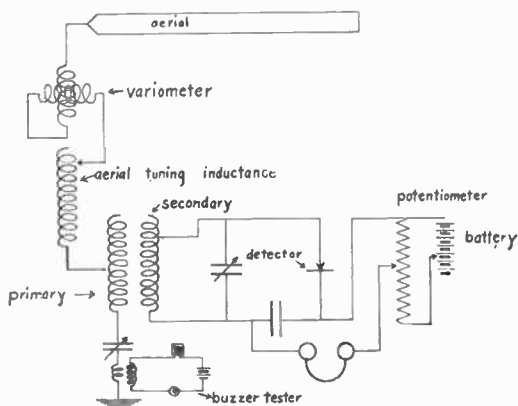

Fig. 60.—Inductively (or Magnetically) Coupled Receiver.
3. Inductively coupled receiver (Figure 60).